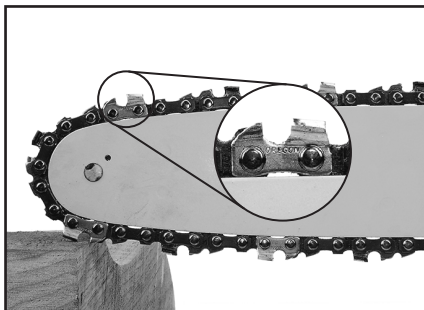

FIG. 7
- Fit the guide bar (29) with the saw chain (28) on to the locating stud (29.1). The chain links on the top of the guide bar must have the arrow pointing away from the housing. If there is no arrow marking visible on the chain, mount it as shown in (Fig.7).
- Replace the drive sprocket cover (30) and the 10mm nut (30.1) and tighten securely.
- Turn the chain tension adjustment screw (27) anticlockwise to loosen the strain on the bar.
- Remove the 10mm nut (30.1) anticlockwise, followed by the drive sprocket cover (30).
- Lift the guide bar (29) with the saw chain (28) off the locating stud (29.1) and tension pin (29.2) and away from the drive sprocket (30.1).
9.2 TENSIONING THE CHAIN - FIGS.7 - 9